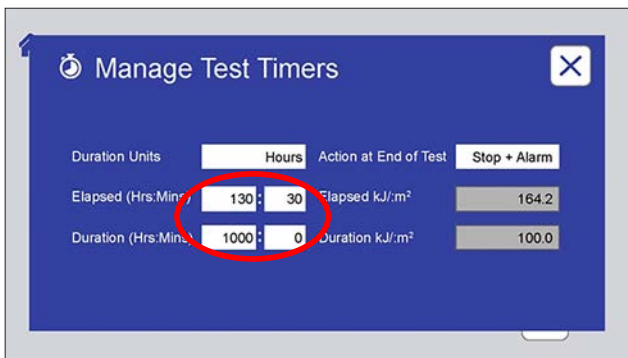
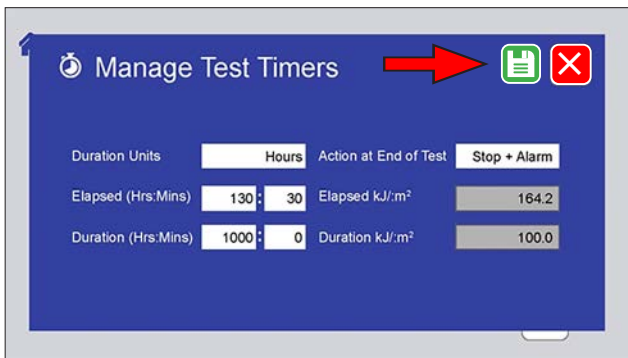

Figure 11.5g: Touch the enabled text box(s) to enter the new values.
Figure 11.5i: If any changes have been made, touch the save changes icon or the cancel changes icon to re-display the Main Menu screen.
3. Set the elapsed and/or duration in the selected units for the current test (Figure 11.5g through Figure 11.5i).